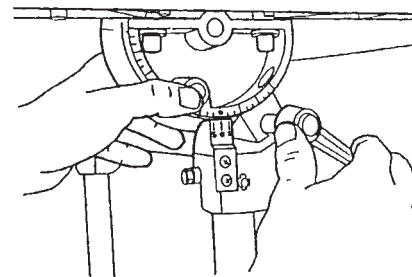

Figure B-66
29. Loosen the tilt lock, move the worktable, then depress the 0° stop pin until the stop bolt contacts it. Tighten the tilt lock, and recheck the setting by repeating Steps 26 through 28. See Figure B-66. (It is very important to recheck the setting!)